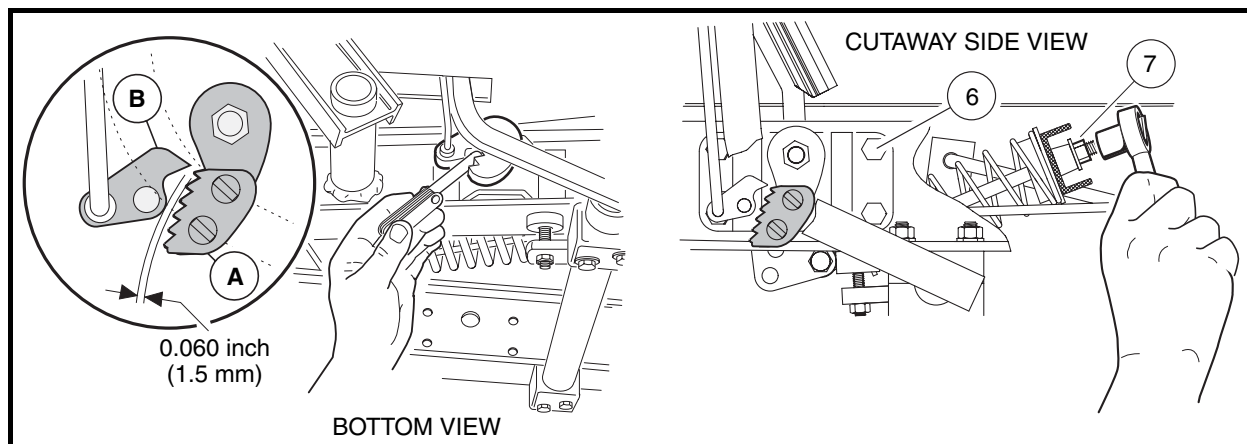

Figure 5-13 Park Brake Ratchet/Pawl Gap Adjustment
3.2. Adjust retaining nut (7) on spring support rod until there is a 0.060 inch (1.5 mm) gap between the pawl and the tips of the ratchet teeth. Use a feeler gauge to verify the gap (**Figure 5-13, Page 5-13**). The gap should be consistent through range of pawl movement. If the gap is not consistent, loosen the four bolts (6) securing the accelerator pivot rod supports and adjust the supports. If the gap becomes smaller as the park brake pedal is pressed, move the pivot rod supports slightly rearward until the gap is consistent. If the gap becomes larger as the park brake pedal is pressed, move the pivot rod supports slightly forward until gap is consistent. **See following NOTE.**